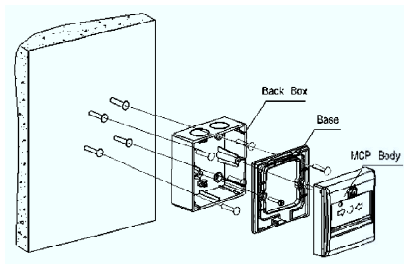
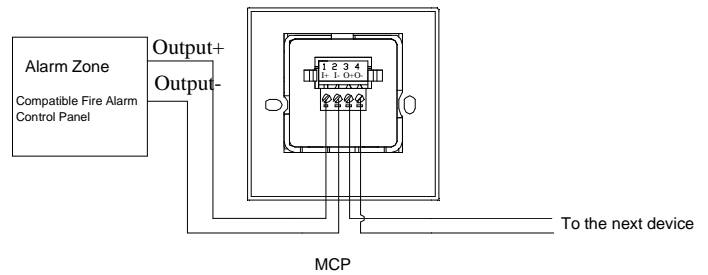
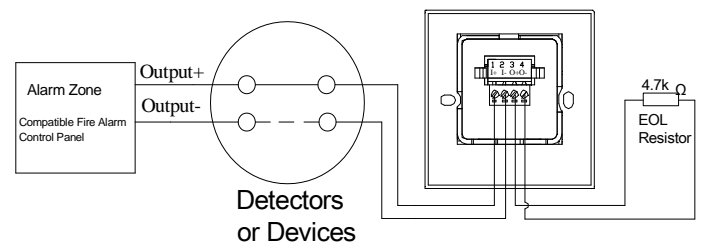

Fig. 2
Fig. 4
Fig.5
First install the back box onto the wall using 4 screws, then install the base onto the back box. Connect cables to corresponding terminals as Fig.4. Hook the juts of the MCP body to the base, and then press the part below the action plate to combine them completely. Fig. 2 shows surface mounting.
- ◇ Application of the MCP is shown in Fig. 4&Fig.5.